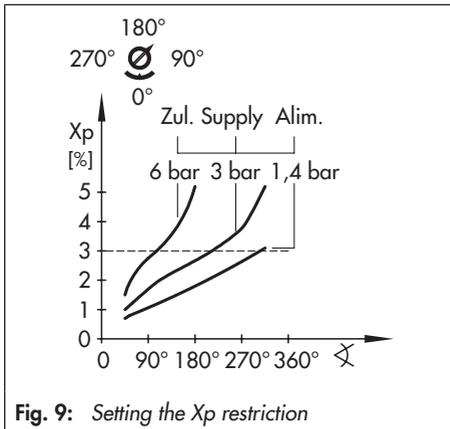

Fig. 9: Setting the Xp restriction
On setting the Xp restriction, observe the relationship with the supply pressure as indicated in Fig. 9. The preset value of Xp should be approximately 3 %.
- The adjustment range of the Xp restriction is restricted by the pointer and stop to one turn (Fig. 9). Do not remove the pointer.